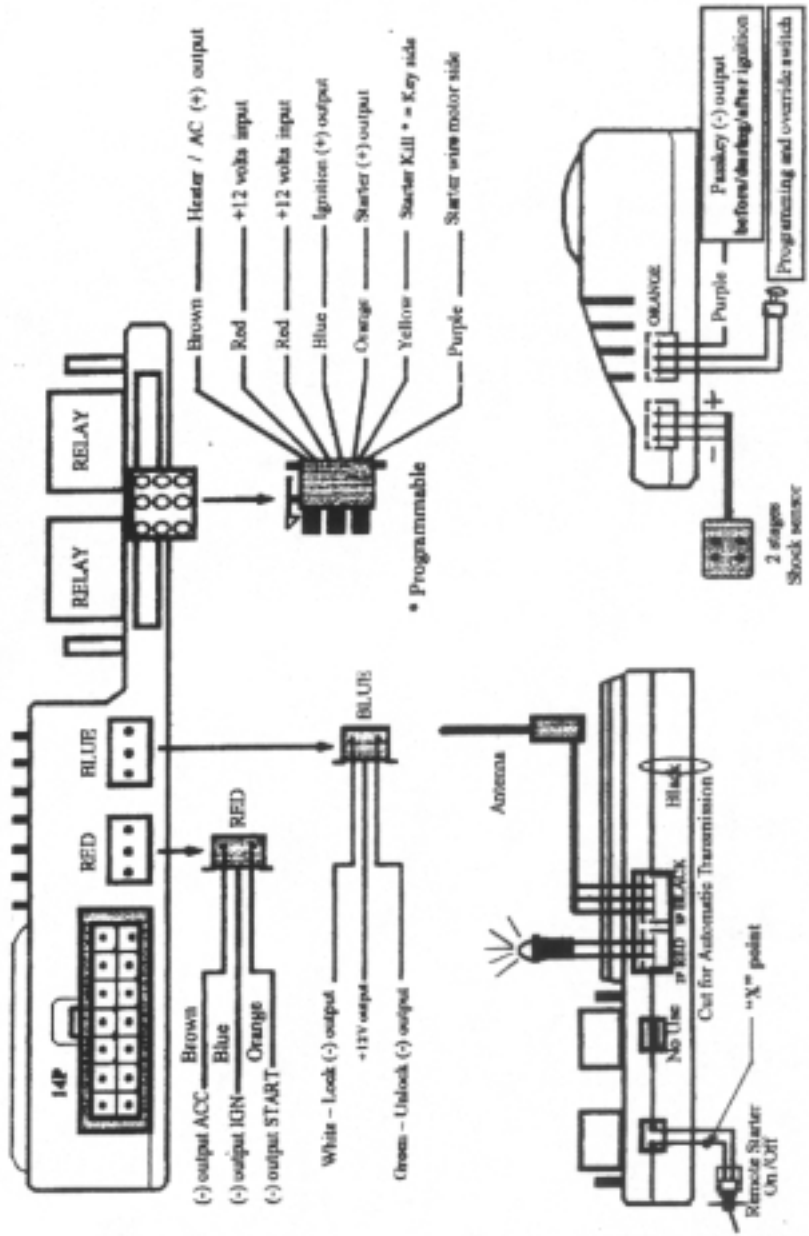

Fig. 1
**The command module is set by default to operate in a vehicle equipped with a Manual transmission. For an Automatic transmission refer to Fig 1 and cut the loop.**